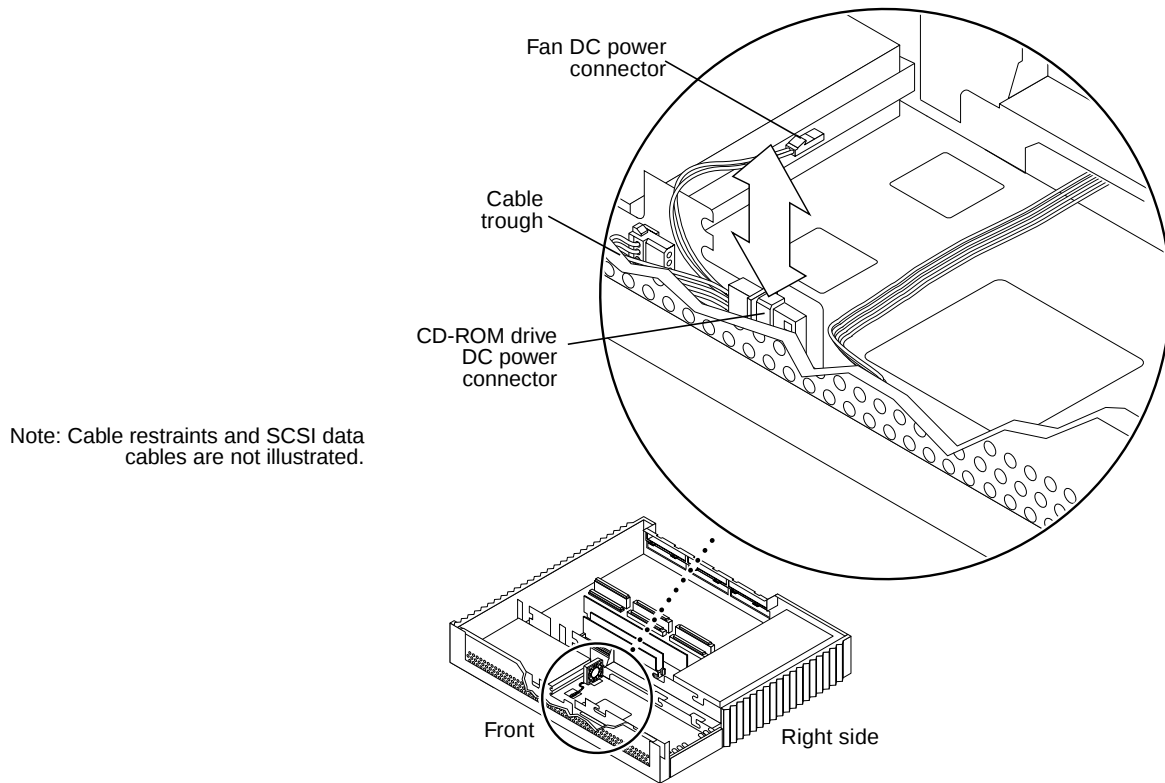

FIGURE 8-24 Routing Excess Cables in Cable Trough
3. **Place the excess cable into the cable trough along the front of the chassis** (FIGURE 8-24).